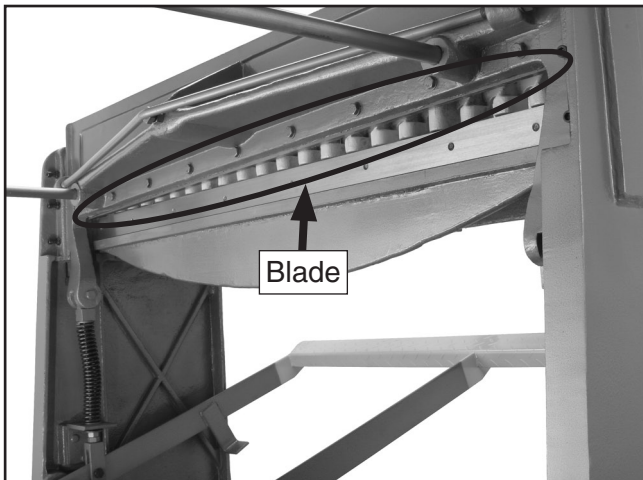

Figure 27. Blade lubrication.
- Shearing blades (**Figure 27**).